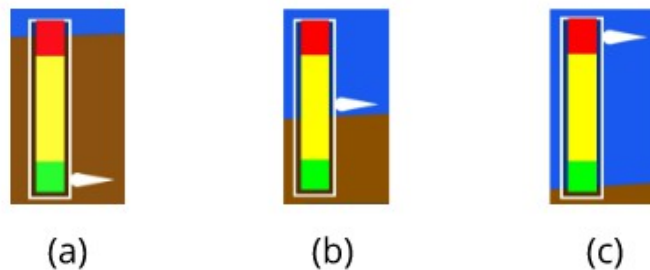

Figure 9: (a) AoA Normal area. (b) AoA warning area. (c) AoA critical area.
The upper side (red area) represents the stall angle as stored during the calibration procedure. The border between red and yellow, represents the calibrated warning angle. As a visual indication, FlySense AoA PRO uses a vertically moving white pointer on the color-bar that indicates the actual AoA. This is illustrated below in Figure 9 that shows three (3) example cases of AoA during flight. The case in Figure 9(c) is a critical case, where the aircraft is close to a stall attitude.